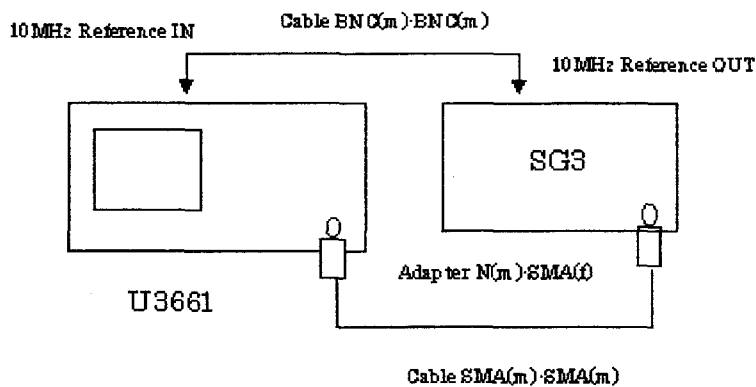

Figure 3-11 Setup of Noise Sidebands Test
1. Connect equipment as shown in Figure3-11.